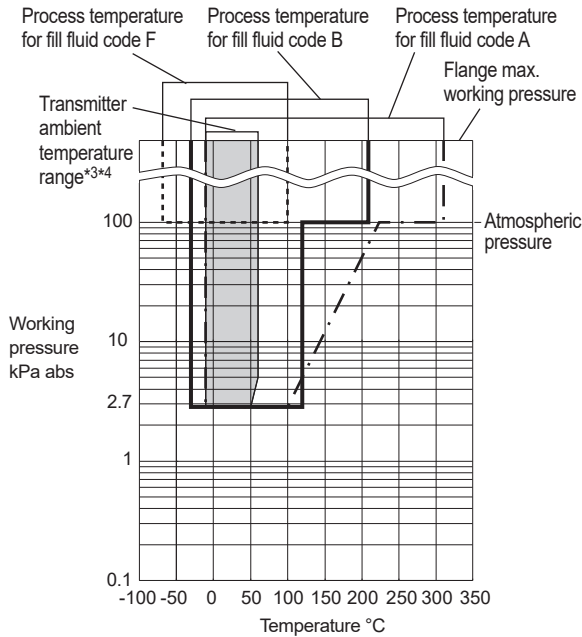

Figure 1a. Working Pressure and Process Temperature (Fill fluid: silicone oil for general and low temperature use)
- *1: See figure 1a, 1b, 1c and 1d 'Working Pressure and Process Temperature.'
- *1: See figure 1a, 1c and 1d 'Working Pressure and Process Temperature.'
For atmospheric pressure or below, see figure 1a to 1g